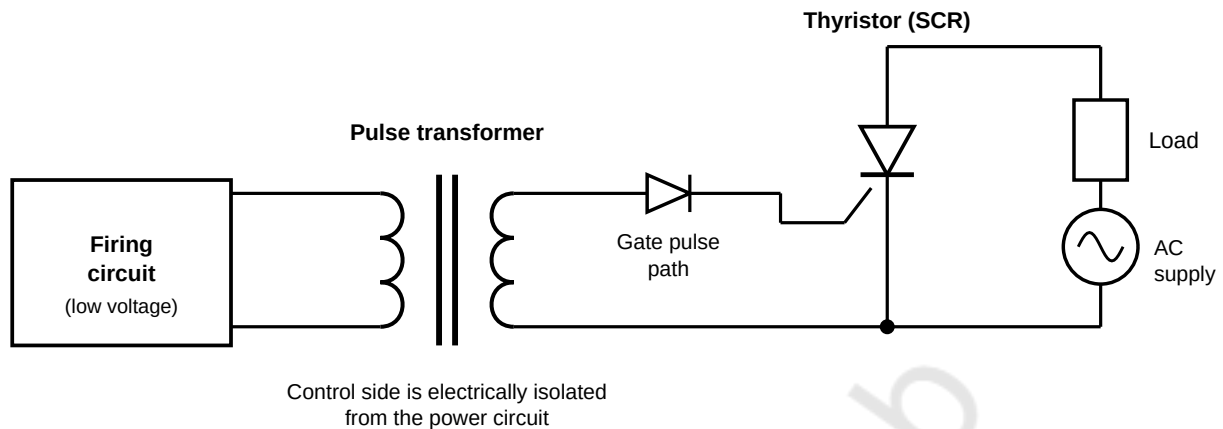

Fig. 6.6: Pulse transformer used for isolated triggering of a thyristor (SCR)
- **Triggering of thyristors and TRIACs:** the firing circuit is at low voltage and must be isolated from the mains-level power circuit (Fig. 6.6). The transformer passes the gate pulse and gives the isolation.